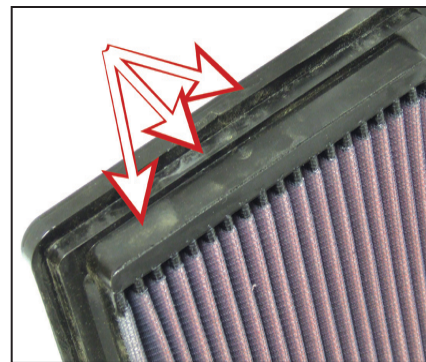

Figure 1 - Sealing Lips
1. The K&N air filter has three distinct “sealing lips” when looking at the filter profile (Figure 1). The lower lip is from the filter element, the middle lip is the seating flange, and the top lip is the sealing flange. When installing the filter into the air box, the filter element will always slip easily into place. This may give the appearance that the whole filter is installed correctly, when it is not. In order to properly seat the K&N air filter in the air box, the seating flange must fit snugly into the air box. On some vehicles it may be necessary to trim away small portions of the air box to accomplish this.